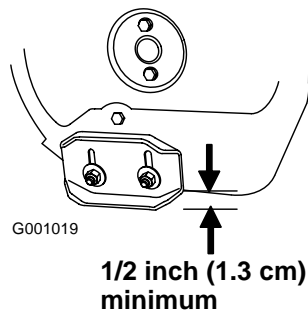

Figure 43
2. Loosen the nuts that secure both skids to the auger sides until the skids slide up and down easily (Figure 43).